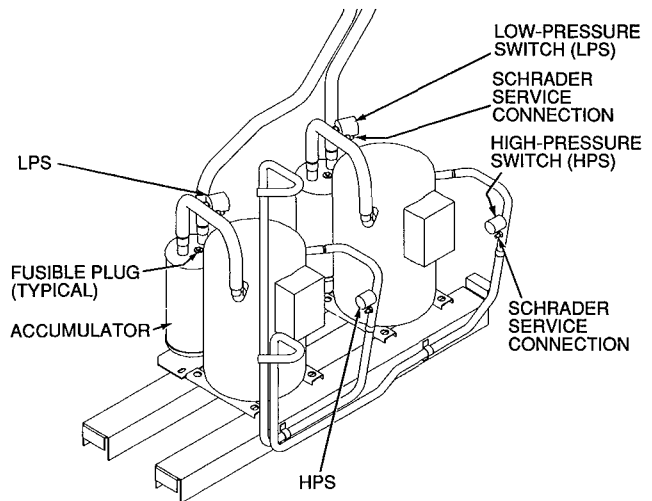

**Fig. 31 – Compressor Components**
**HIGH- AND LOW-PRESSURE SWITCHES** — See Fig. 31 for compressor mounting locations. Settings for these switches are shown in Table 6. If either switch trips, or if the compressor overtemperature switch activates, that refrigerant circuit will be automatically locked out by the constant volume control board. To reset, manually move the thermostat setting.